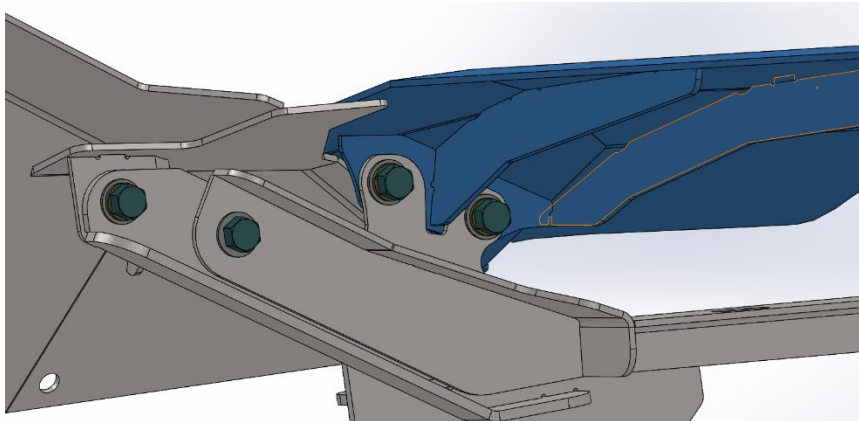

Figure 22
15. Loosely install the four (4) 3/8"-16 bolts, flat washers and lock washers into the Cowl on both passenger and driver side. **(Figure 22)**